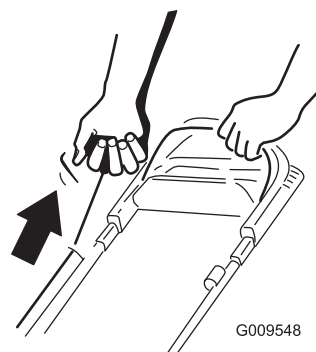

**Figure 12**
2. Push the electric-start button (Figure 12) (electric-start model only) or pull the recoil start handle (Figure 13).
**Note:** If the electric-start button has been removed, insert it in the electric starter; refer to Figure 12 (electric-start model only).